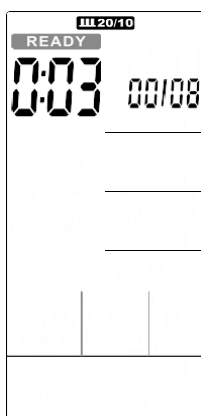

Figure 24
- ① Press INTERVAL to select INTERVAL10/20, press ENTER then **INTERVAL10/20** will light up along with buzzer beeps 1s.
- ② Cycle time counts down from 3 to 0 then console start, meanwhile buzzer beeps once per second and **READY** flashes once per second, counting displays '00/08'(Figure 24).